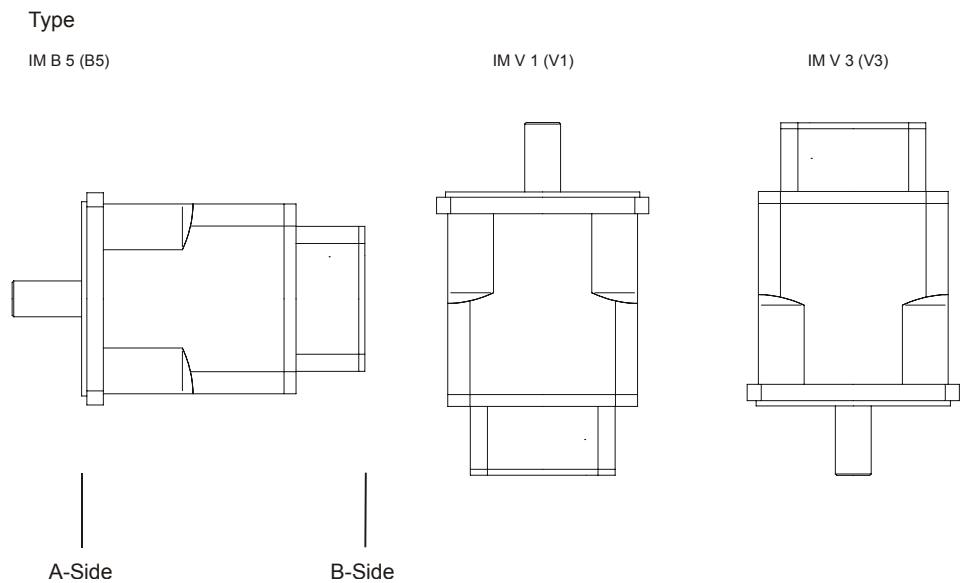

Fig. 2: Mounting Positions of JL7 Motors
- Protect the motors against liquids soaking into the bearing in case the shaft end is installed upwards (design V1); refer to Fig. 2.
Installation	<ul style="list-style-type: none"> • Horizontal position (B5) to Fig. 2 on Page 21 • If the module is operated at an altitude higher than 1,000 m above sea level, derating will be required. • A clearance of at least 10 cm above and below the motor must be maintained to provide proper air circulation.